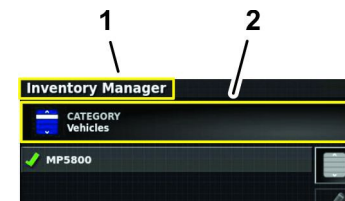

Figure 98
5. If the category of information type (e.g., products, custom nozzles, fields, jobs, field boundaries, AB lines, and curves) that you are exporting is not displayed on the Category icon, press the Category icon (Figure 98).